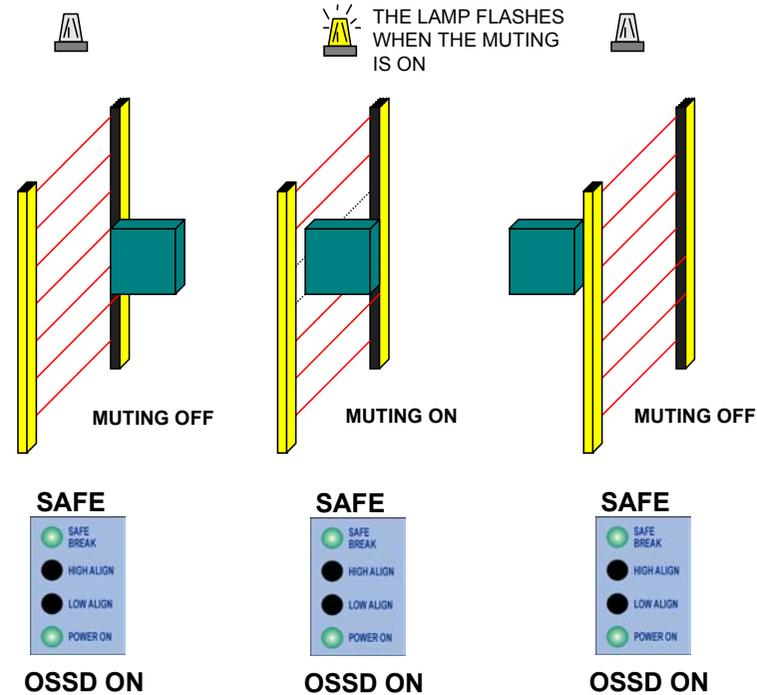

Fig. 23
- Fig. 23 shows an example of Muting functioning: